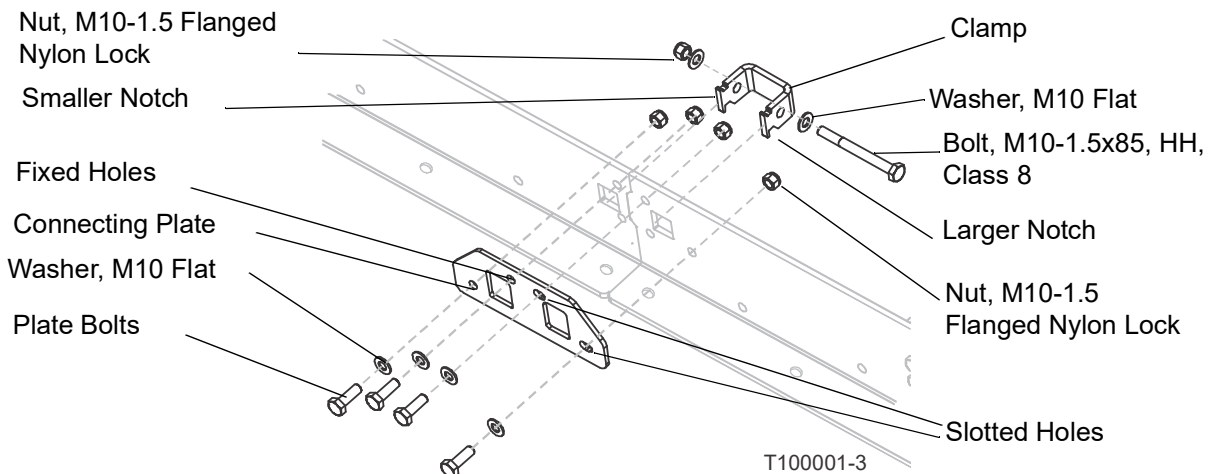

FIG. 3-3
- c. Set the clamp in place by inserting the larger notch first (on bottom) and then tilting the clamp in and upward to catch the smaller notch (on top). See FIG. 3-3.